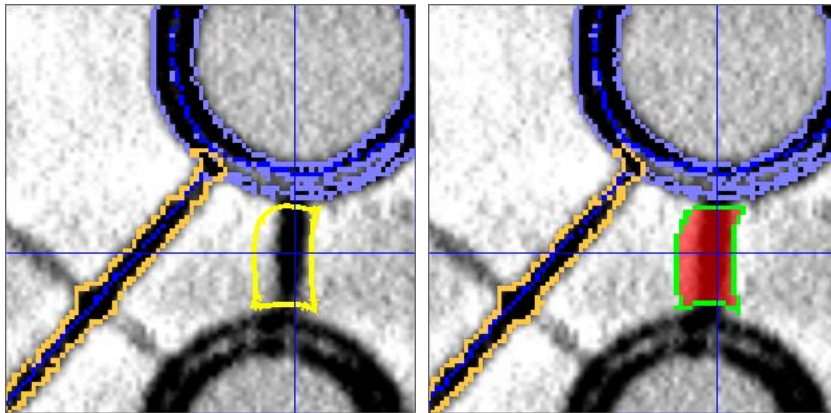

Figure 35: a) Outline for manual segmentation. b) Segmented region.
8. Press the **Segment** button. The interior of the volume is now marked with a red overlay and the anchor path turns green (Figure 35). All points in the interior on this slice have now been added to the VOI for this object.